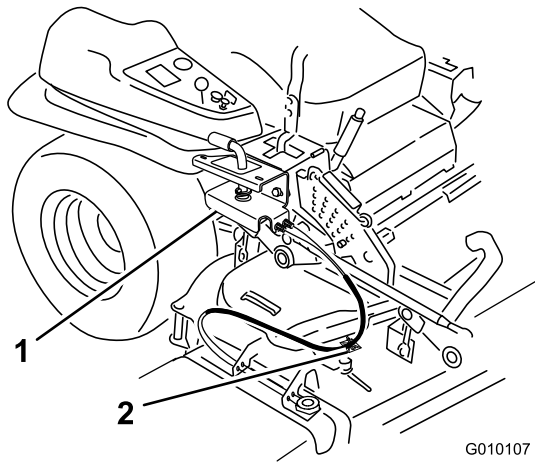

Figure 6
2. Install the adhesive back plastic mount on a smooth clean surface. Thread the cable tie through the plastic mount and secure the cables with the cable tie (Figure 6).